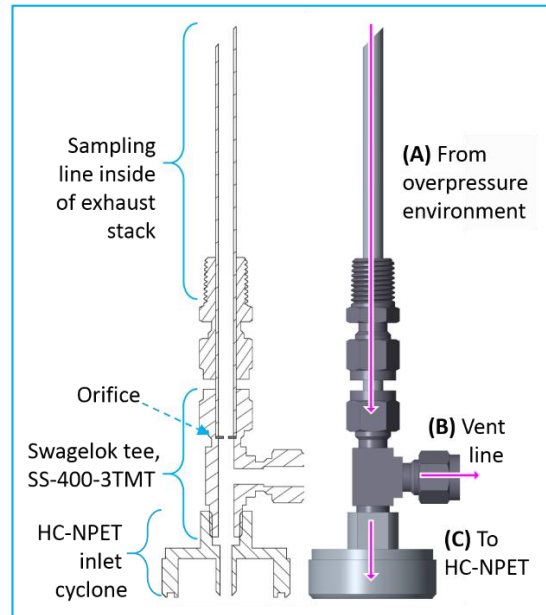

Figure 2: Sampling design to allow the HC-NPET to sample safely from an overpressure environment.
- The straight-through leg of the tee will have 1/8" NPT threading; this will go to the NPET; see Figure 2. Instructions on how to attach the NPET are covered in a later section, "How do I Collect and Analyze my Data?"
- The 90 degree leg of the tee will have ¼" Swagelok® threading, and will serve as the vent; see Figure 2. Instructions on how to plumb the vent are covered in steps 3–4.
2. **Choose the right orifice** for your application. An orifice is necessary to control the excess flow out of the tee, and should be installed in the overpressure leg of your sampling tee (in Figure 2, A). When choosing an orifice it is important to know the maximum overpressure you expect to encounter, and the temperature of the overpressure environment. Table 1 provides guidance on how to select an orifice. For further guidance in this regard, contact TSI.
3. **Plumb the excess (vent) line.** Starting at the 90 degree leg of the tee (in Figure 2, B), plumb the following components in order. Components may be omitted at your discretion.
Table 1: Orifice selection guidance. Use the expected minimum pressure of your overpressure environment, as well as temperature, to select an orifice. A smaller orifice reduce the excess venting of exhaust gas, but requires a higher minimum exhaust gas pressure to maintain the NPET sampling flow. Refer to Figure 2.
- a. Upstream: the straight-through leg of the sampling tee (in Figure 2, C) can screw directly into the 1/8" NPT female thread in the HC-NPET's inlet cyclone using Teflon® tape. The inlet cyclone is located between the flexible hose and the sampling probe. To access the inlet cyclone, simply unscrew the sampling probe.